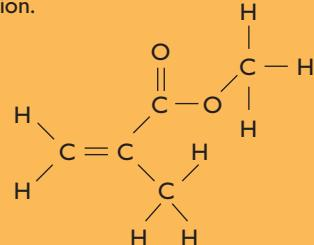

Figure 1.28
6. Figure 1.28 shows the structural formula of the alkene methyl methacrylate.